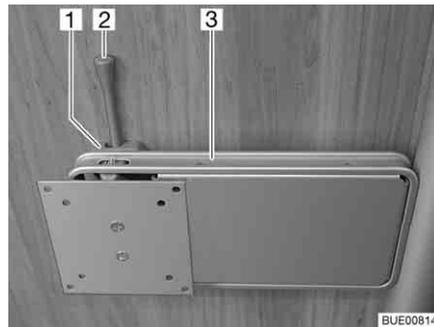

Fig. 60 Holder on the column
- Push the release lever (Fig. 60,2) to the side and turn the holder (Fig. 60,3) with the flat screen to the desired position.
- Turn flat screen back until the holder (Fig. 60,3) engages in the lock (Fig. 60,1).